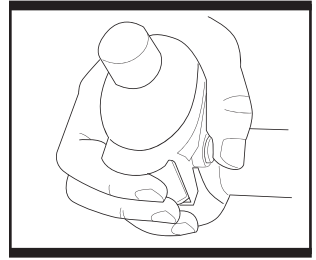

Fig. 1
1. SWITCHING ON AND OFF (See Fig. 1)